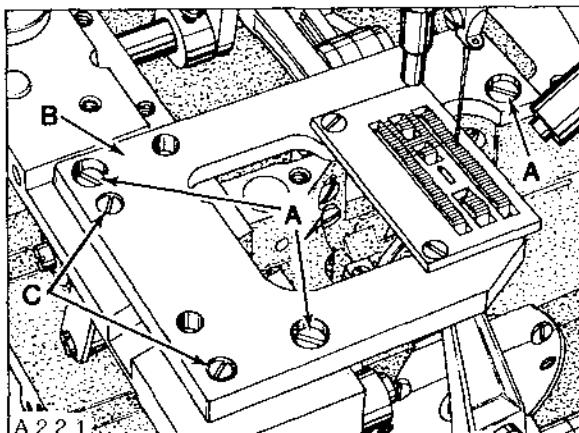

Fig. 15
Feed dog should be centered in throat plate with equal clearance on both sides and ends. At highest point of travel, feed dog teeth should extend the depth of a tooth or approximately $\frac{3}{64}$ inch (1.2mm) above throat plate. MINOR (right to left) adjustments can be made by loosening three screws (A, Fig. 15) in throat plate support (B). Loosen two screws (C) which secure two locating ferrules used to align throat plate support. Reposition slightly as required considering both needle hole slot/s and feed dog slots. Tighten screws (C) first, then screws (A).